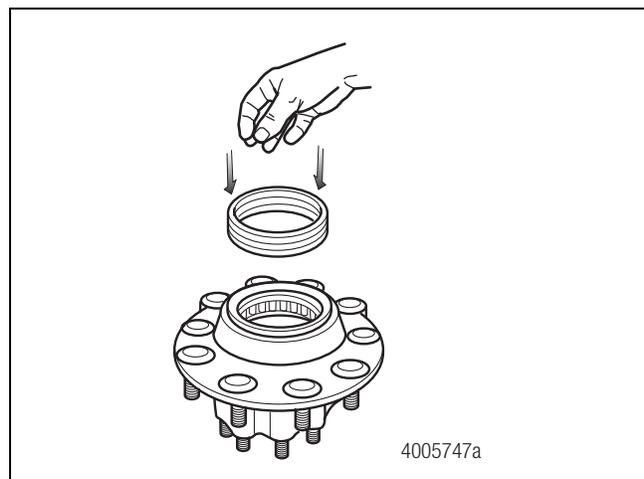

Figure 5.2
6. Use a seal driver to press the wheel seal evenly into the bore. Follow the seal manufacturer's recommended instructions. Figure 5.2.